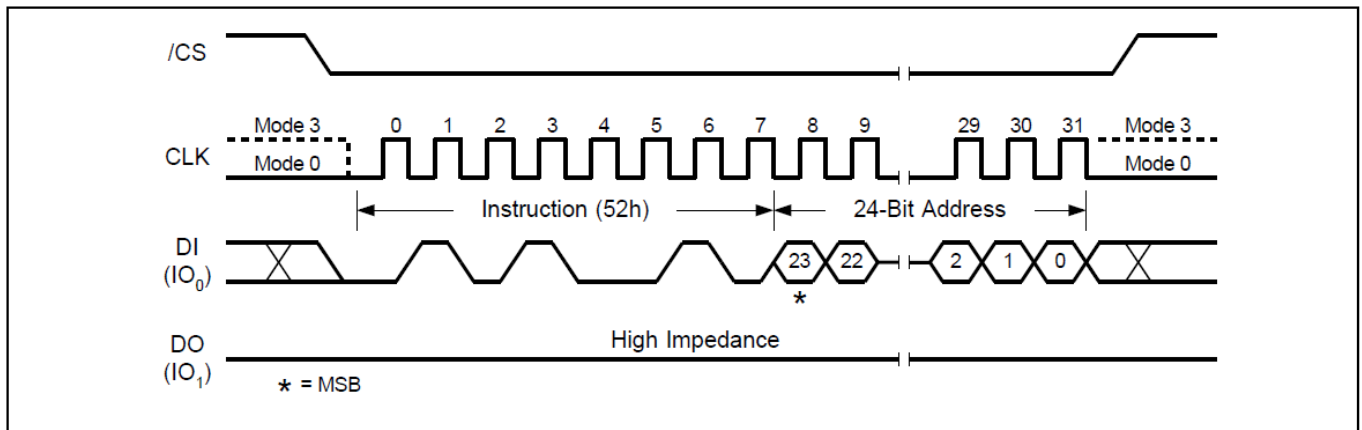

Figure17. 32KB Block Erase Sequence Diagram
The 32KB Block Erase command sequence: CS# goes low → sending 32KB Block Erase command → 3-byte address on DI → CS# goes high. The command sequence is shown in Figure17. CS# must be driven high after the eighth bit of the last address byte has been latched in; otherwise the 32KB Block Erase (BE) command is not executed. As soon as CS# is driven high, the self-timed Block Erase cycle (whose duration is tSE) is initiated. While the Block Erase cycle is in progress, the Status Register may be read to check the value of the Write in Progress (BUSY) bit. The Write in Progress (BUSY) bit is 1 during the self-timed Block Erase cycle, and is 0 when it is completed. At some unspecified time before the cycle is completed, the Write Enable Latch (WEL) bit is reset. A 32KB Block Erase (BE) command applied to a block which is protected by the Block Protect (SEC, TB, BP2, BP1, and BP0) bits (see Table 1-6) is not executed.